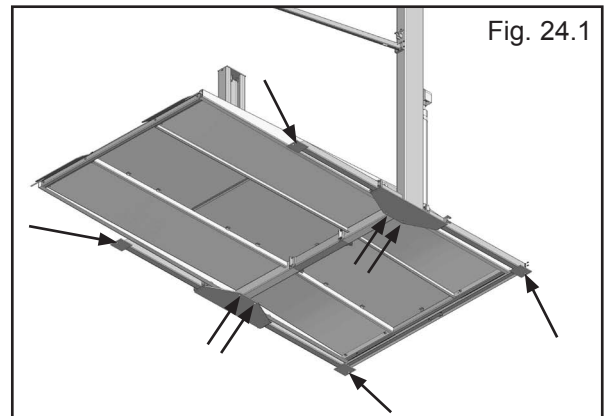

Fig. 24.1
2. Locate the 8 anchor points. (See Fig. 24.1)